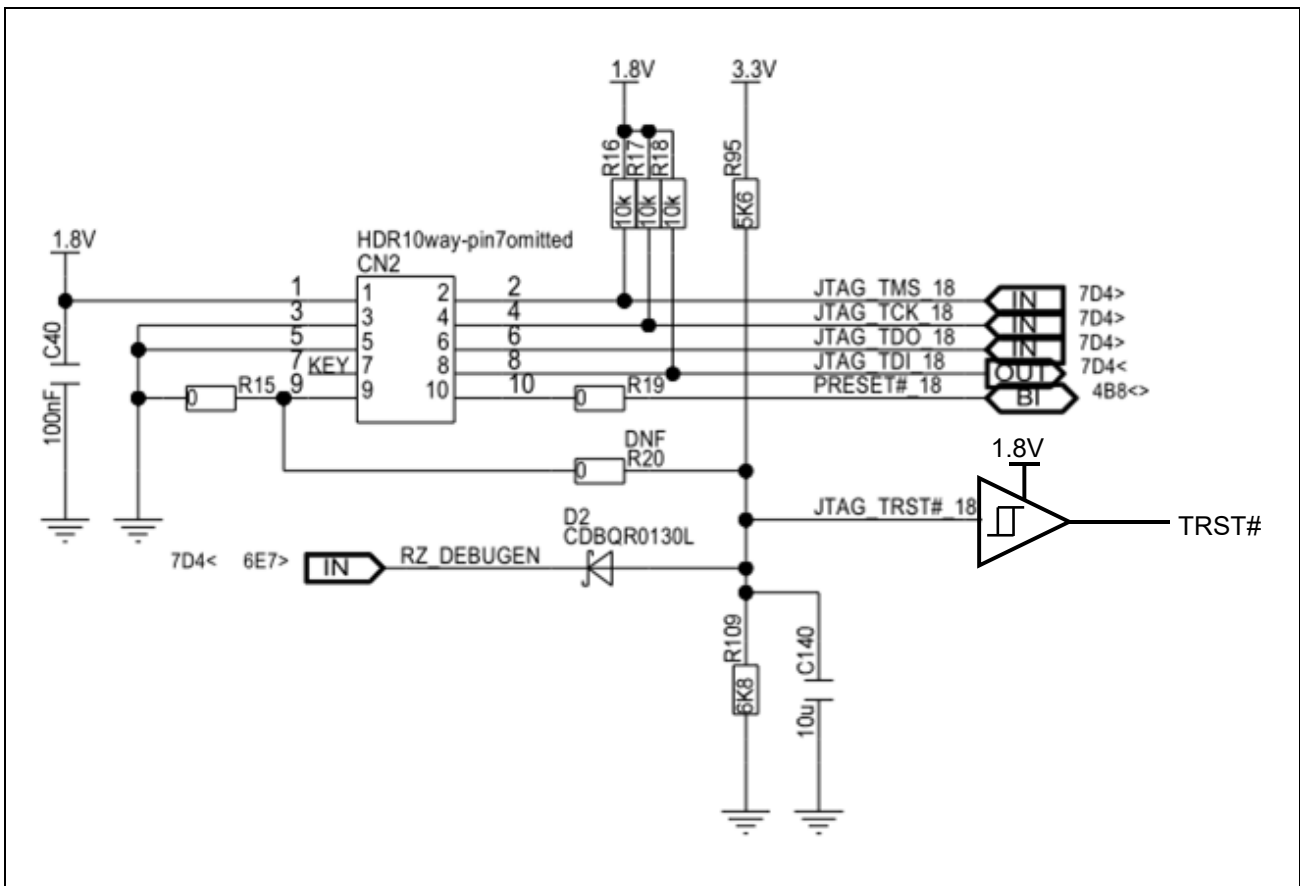

Figure 5.12 Insertion of Schmitt Trigger Buffer
- The maximum TRST# input rise time is 180 ns. We recommend inserting a Schmitt trigger buffer into TRST# as shown in **Figure 5.12**.